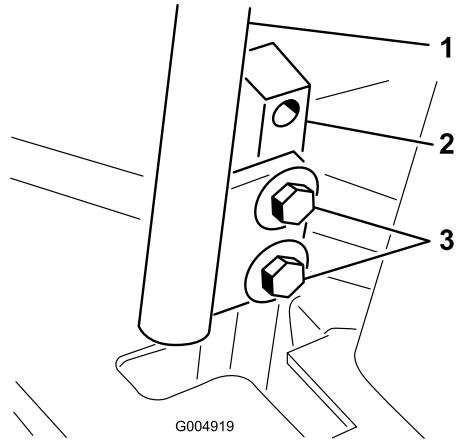

Figure 55
3. Loosen the bolts securing the control levers (Figure 55)